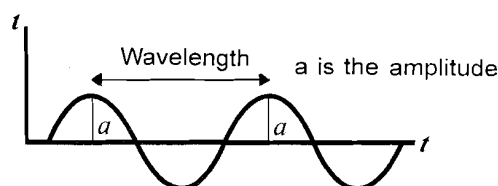

Fig.5.2: Variation of alternating current with time
- **Alternating current:** It results when the direction of flow of charges reverses periodically (Fig.5.2). Note that the current increases from zero